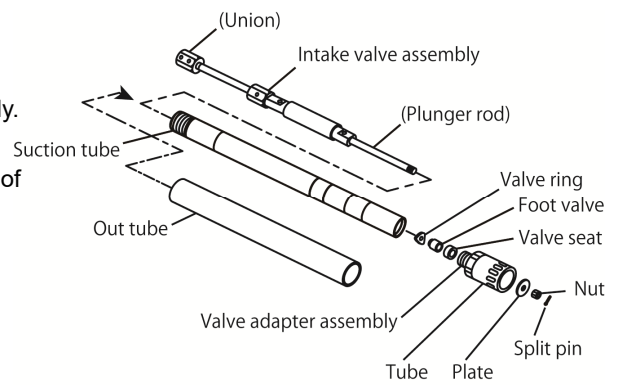

Fig.12
- Assembling the foot valve (Fig.12)